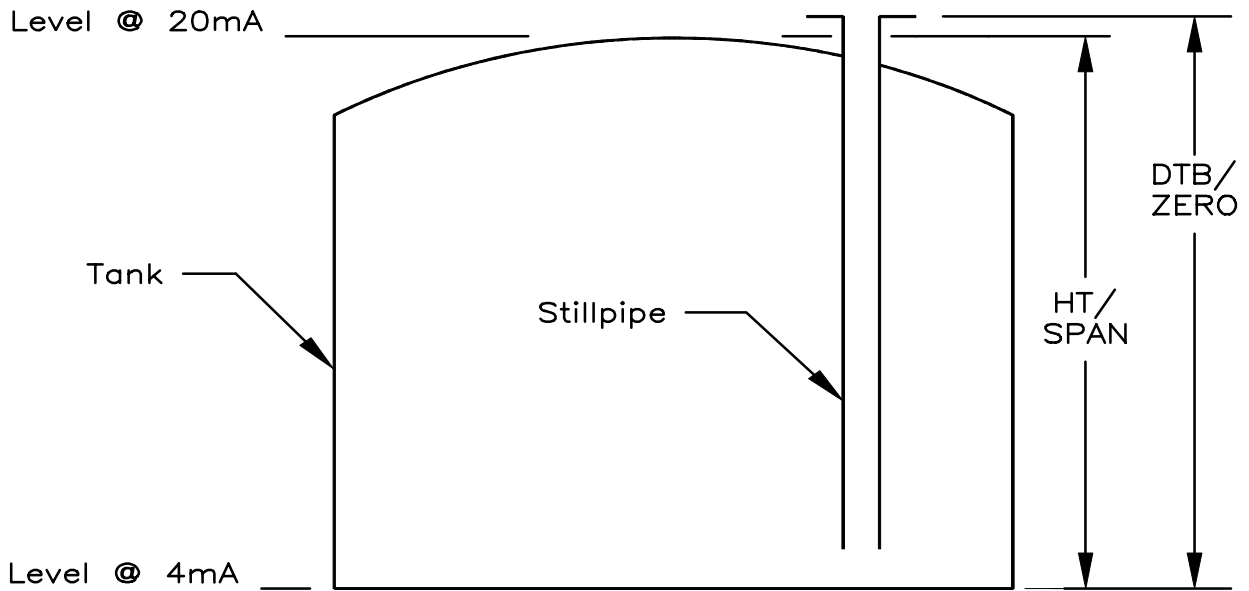
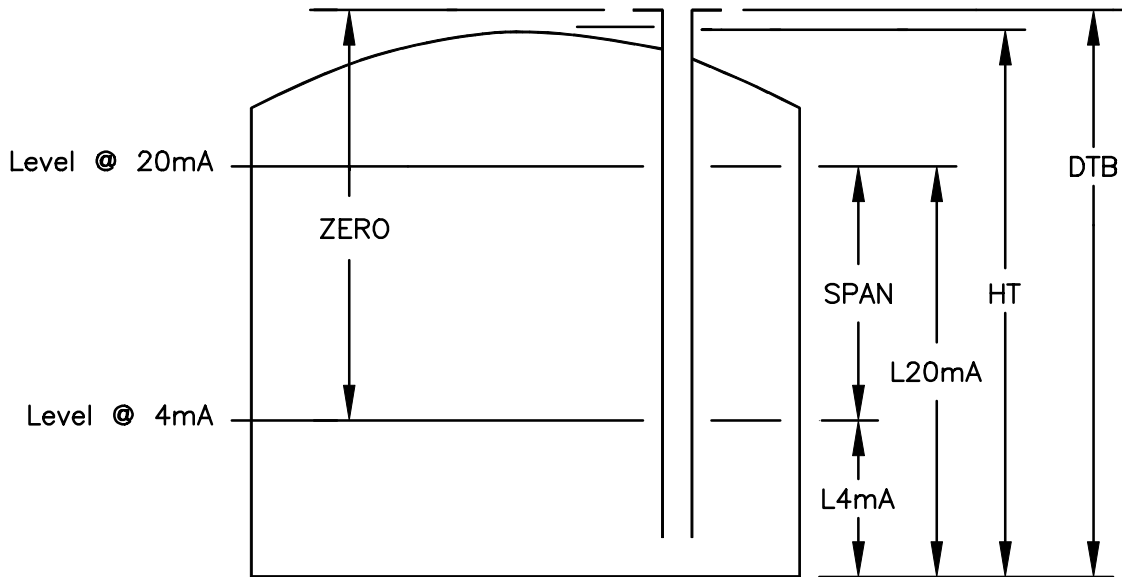

Figure 5.1 Tank Dimensions (Simple)
Figure 5.2 Tank Dimensions (General)
Figure 5.1 shows the two tank dimensions required to properly calibrate the transmitter for simple installations where 4mA is at tank bottom and 20 mA is at tank top. Figure 5.2 shows the more general definition of dimensions. The Distance to Tank Bottom (DTB) is the distance from the stillpipe sensor housing mounting flange to the bottom of the tank. The level at the 4mA point (L_{4MA}) is the distance from tank bottom to the desired level to be set to 4mA. The bottom of the tank is normally calibrated to represent zero level (4 mA) and in this case $L_{4MA} = 0.00$. The Height of the Tank (HT) is the distance from the bottom of the tank to the top of the tank. The level at the 20 mA point (L_{20MA}) is the distance from tank bottom to the desired level to be set to 20mA.